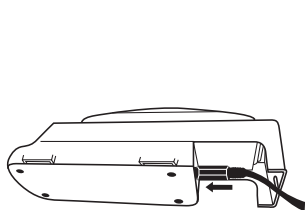

Fig. 1a
- 3M™ Single Station Battery Charger TR-341N: Insert the DC supply cord from the 3M™ Power Supply TR-941N into the cradle (Fig. 1a). Plug the power cord into an AC power source (100-240V), such as a wall outlet.